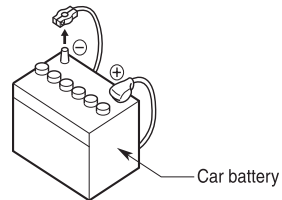

Figure 1
3. Be sure to disconnect the battery " "terminal before starting. This is to prevent short circuit during installation. (Figure 1)